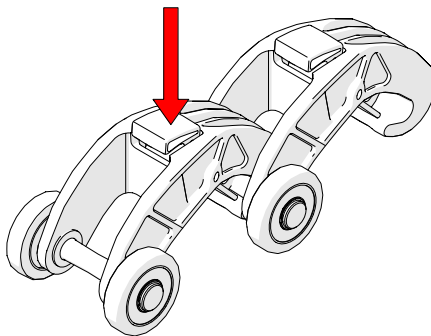

Fig. 48 - Press button
1. Press the button on the top of the QuickLink (Fig. 48).